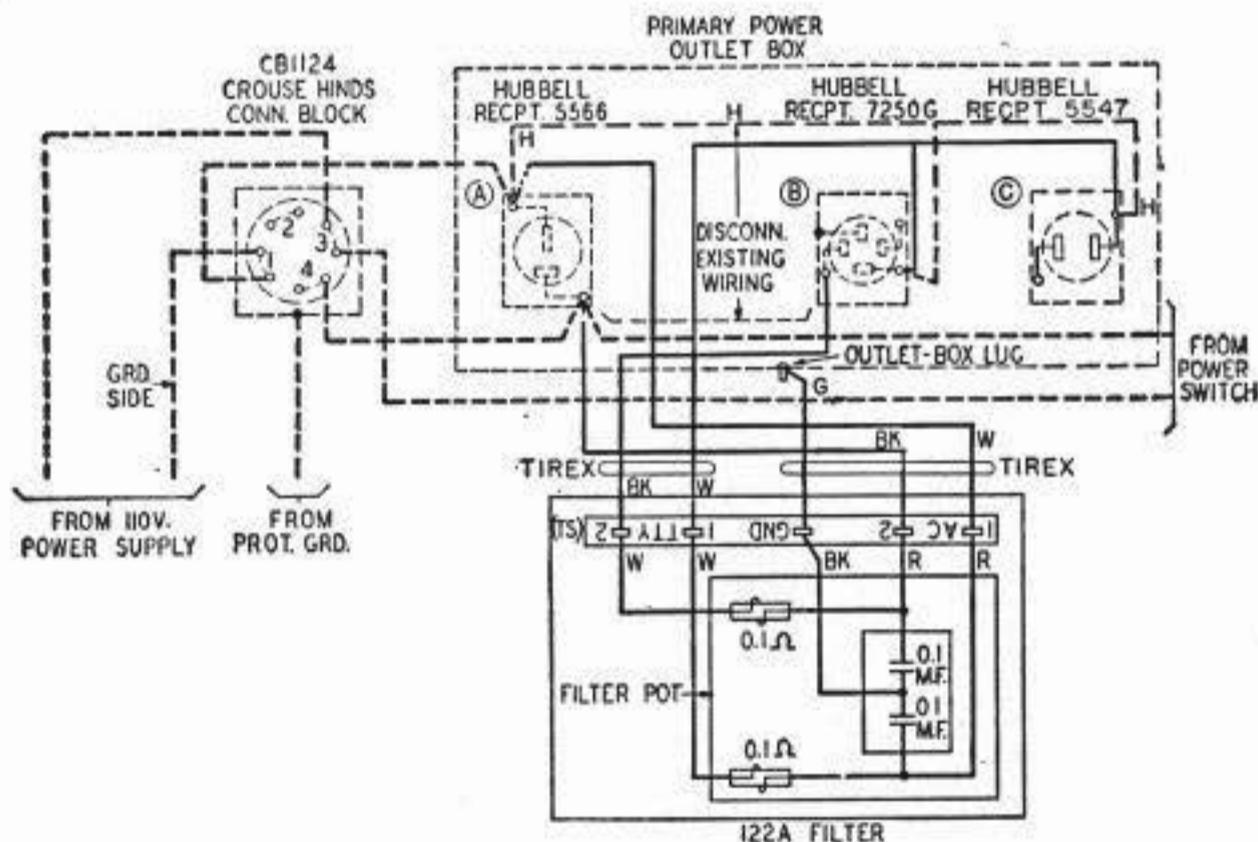

Fig. 2
Rectifier Outlet Not Filtered (Fig. 2)
2.04 If the added load consists only of a rectifier (or motor-generator) outlet A may be wired, as in Fig. 2, so that it is not filtered. Connect the filter unit as follows:
Note: In order to make the wiring consistent for all three figures, the wiring to the filter in Fig. 2 has been reversed from that shown in Issue 2 so that the grounded side of the power circuit goes to terminal AC-1 of the filter unit.
Note: If the power supply is 50- or 60-cycle ac, or dc, the H lead goes first to the B receptacle and then to the C receptacle. With 25-cycle power, the H lead goes first to the C receptacle from which connection to the B receptacle is made through a resistance not shown in Fig. 2.